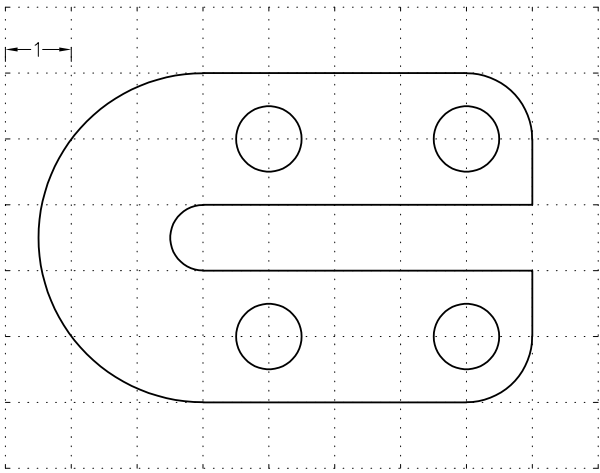

Figure 3-12 Drawing for Exercise 3
- b. Draw the profile shown in Figure 3-12. Create the curves by using the **Start, End, Direction** tool. The distance between the dotted lines is 1.0 unit and the diameter of the circles is 1 unit.